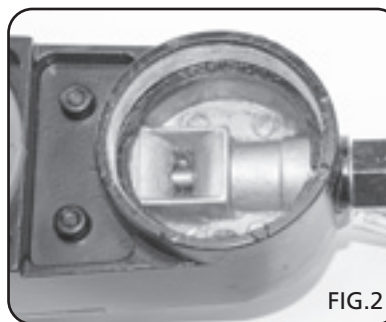

FIG.2
8.4 PRIMING THE GREASE PUMP HEAD – FIGS. 2 – 3